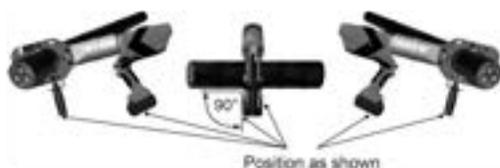

Figure 3
6. Hold tool steady with both hands and maintain a stable stance. Keep the tool at a 90-degree angle to the cable (Fig. 3). to ensure a straight cut. Do not twist work piece or tool during cutting operation, blade failure could result.
11. Set up the tool at a 90-degree angle to cable (Figure 3) to ensure a straight cut, making sure the area is clear. Secure tool to limit shifting and twisting during operation and to keep tool from falling during operation.